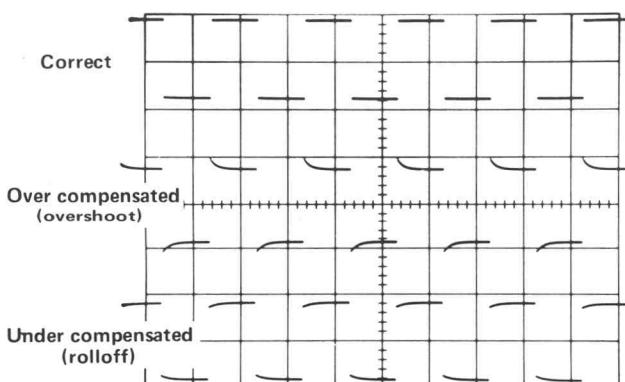

Fig. 2-4. Probe Compensation.
- b. Touch the probe tip to the CAL OUT jack and check the display for proper probe compensation (see Fig. 2-4).
- c. If necessary, adjust the probe compensation for the best front corner response to the square waves as shown in Fig. 2-4.